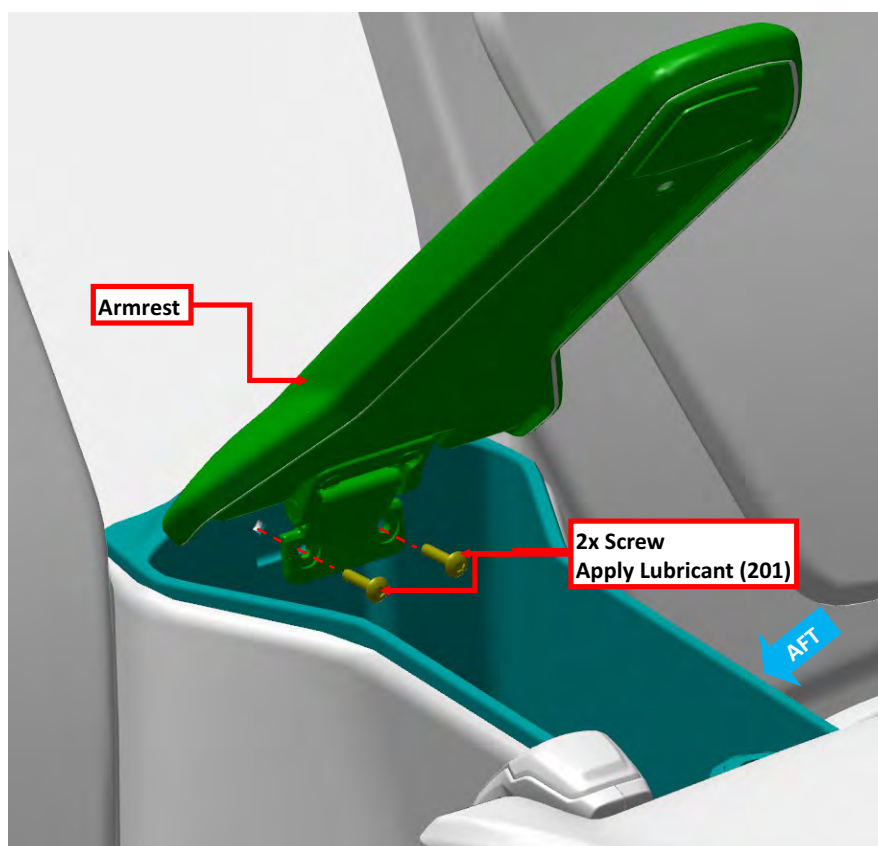

FIGURE 8-4
2. Remove 2X Screws which secure the center armrest. Retain all fastening hardware. See Figure 8-4.
3. Install 2x screws which secure the center armrest. Apply ICA012078 lubricant and torque to 12 inlbs. See Figure 8-4.